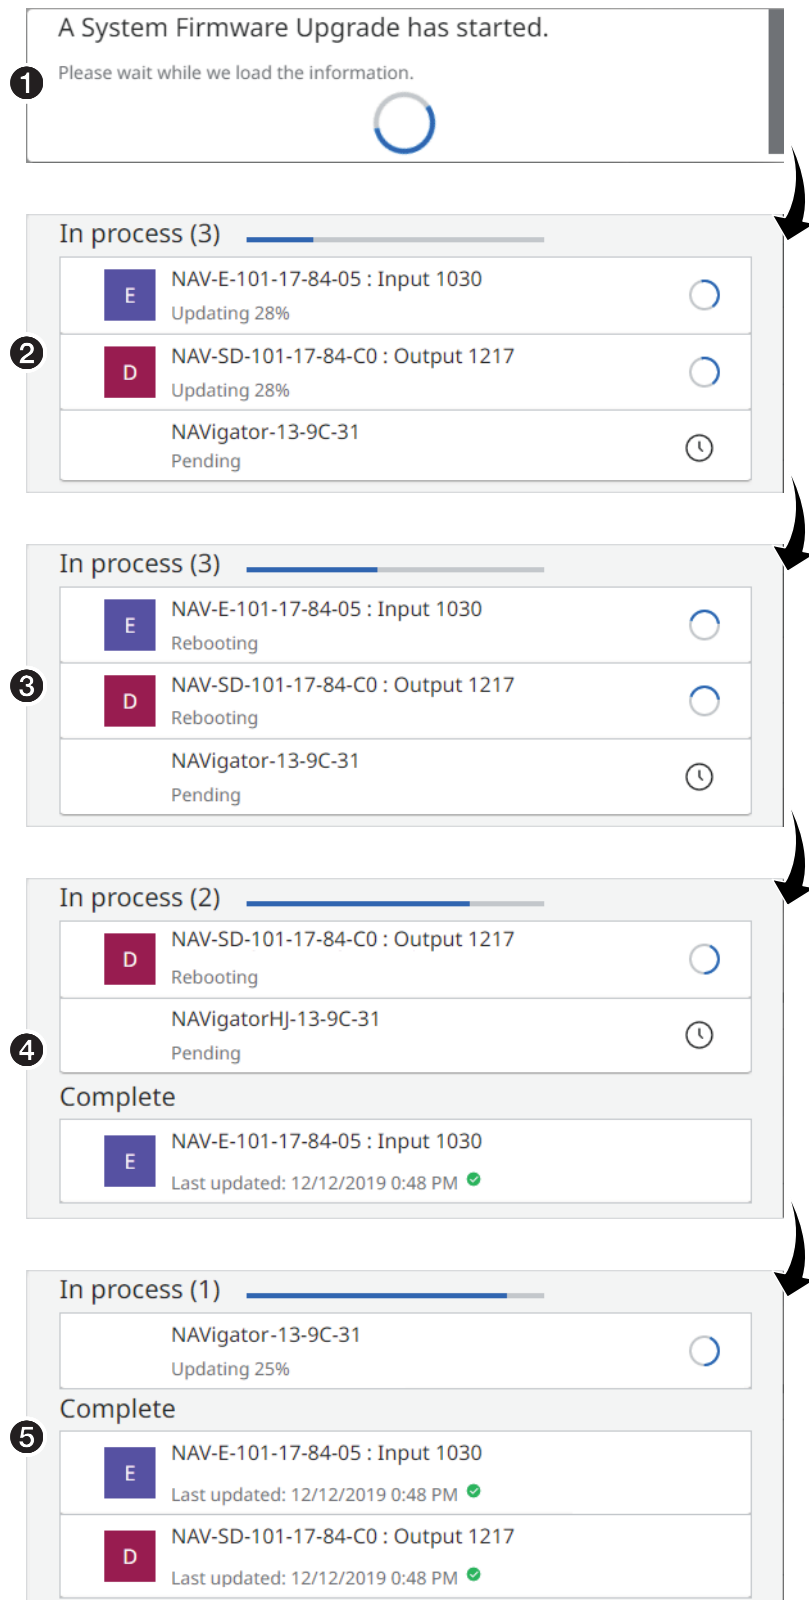

Figure 92. Firmware Upgrade in Progress
10. Click **Update** (❸). The NAVigator page displays a series of messages that show the sequence of the firmware update (see figure 92, ❶ on page 86).
The system firmware upgrade has started (see figure 92, ①).